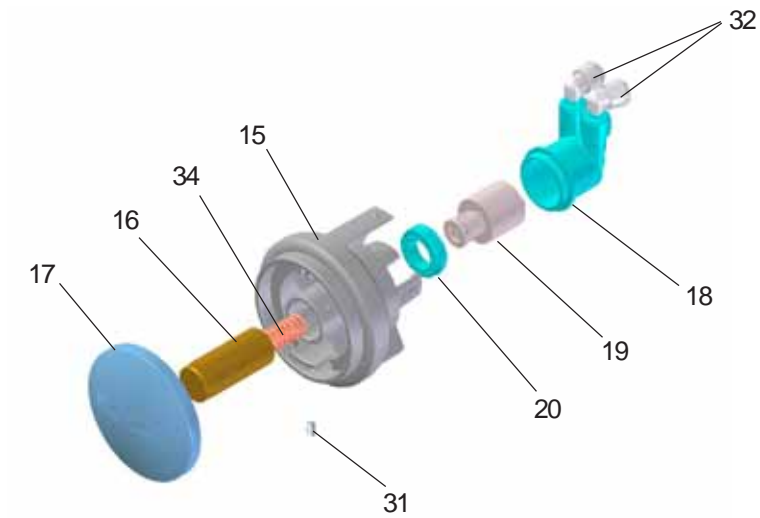

Figure 14 - Push Button
7. **Check** stream height from bubbler. Stream height is factory set at 35 PSI. If supply pressure varies greatly from this, remove push button (Item 17 - Figure 14) and adjust the screw on the regulator (Item 19 - Figure 14). To remove push button, remove setscrew from bottom of sleeve (Item 15). Insert a small punch in screw hole and push up while grasping the push button and pull forward removing the push button. Clockwise adjustment will raise stream height and counterclockwise movement will lower stream height. For best adjustment stream should hit basin approximately 6-1/2" from the bubbler. Reassemble push button by pushing in on button until the push button catches in the sleeve. Reinstall the setscrew (Item 31) in the sleeve (Item 15).
9. **Check** stream height from bubbler. Stream height is factory set at 35 PSI. If supply pressure varies greatly from this, remove push button (Item 17 - Figure 14) and adjust the screw on the regulator (Item 19 - Figure 14). To remove push button, remove setscrew from bottom of sleeve (Item 15). Insert a small punch in screw hole and push up while grasping the push button and pull forward removing the push button. Clockwise adjustment will raise stream height and counterclockwise movement will lower stream height. For best adjustment stream should hit basin approximately 6-1/2" from the bubbler. Reassemble the push button by pushing in on button until the push button catches in the sleeve. Reinstall the setscrew (Item 31) in the sleeve (Item 15).